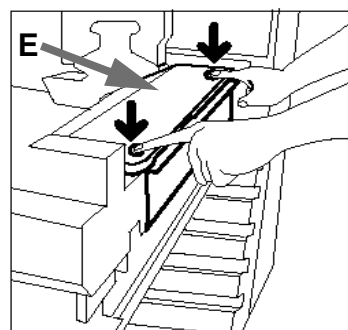

Figure 44: Unlatching the Cleaning Web
- 4 Press down on the Front and Rear Release buttons on the top of the fuser assembly, as illustrated in Figure 44, to unlatch the Cleaning Web (area E). The web opens to the right of the Paper Path Module.